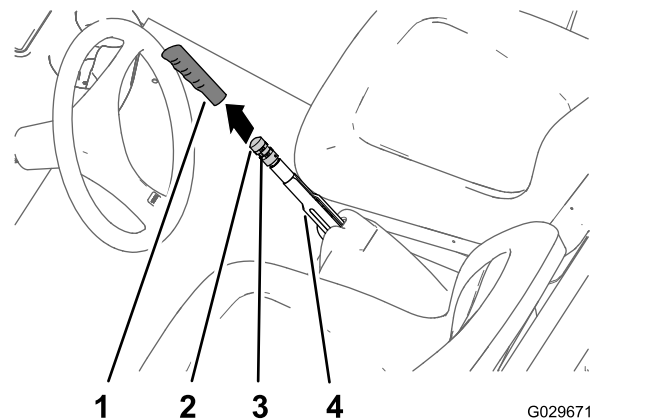

Figure 63
1. Remove the handgrip from the parking-brake lever (Figure 63).
2. Loosen the set screw securing the brake-adjustment knob to the parking-brake lever (Figure 63).
3. Rotate the brake-adjustment knob until you reach a force of 133 to 156 N (30 to 35 lbf) to engage the parking-brake lever (Figure 63).
4. Tighten the set screw and install the hand grip (Figure 63).
2. Loosen the set screw (Figure 63) securing the brake-adjustment knob to the parking-brake lever, disengage the parking brake, and loosen the brake-adjustment knob.
5. Rotate the brake-adjustment knob (Figure 63) until a force of 133 to 156 N (30 to 35 lbf) is required to engage the parking-brake lever.
- C. Rotate the brake-adjustment knob (Figure 63) until a force of 133 to 156 N (30 to 35 lbf) is required to engage the parking-brake lever.
- Tighten the set screw and install the handgrip (Figure 63).